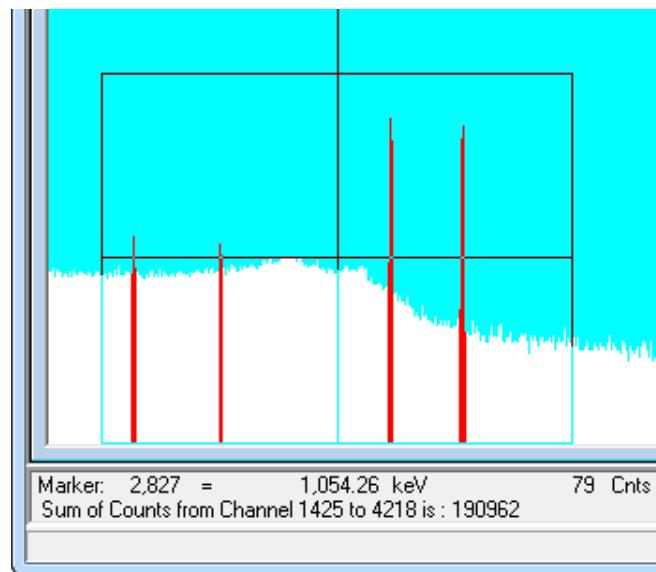

Figure 133. Summing the Channels Within a Rubber Rectangle.
- 3) You can also sum a region by marking it with a rubber rectangle, then selecting **Sum**. This is illustrated in Fig. 133.